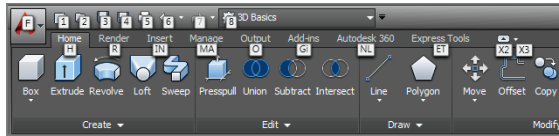

FIGURE 1.13 Keytips allow you to press keys to manipulate the ribbon with the keyboard.
8. Press and release the Alt key. Keytips appear on the ribbon (see Figure 1.13). Pressing any of the letter combinations activates that part of the GUI. Type IN, and observe that the Insert tab is selected without moving the cursor.